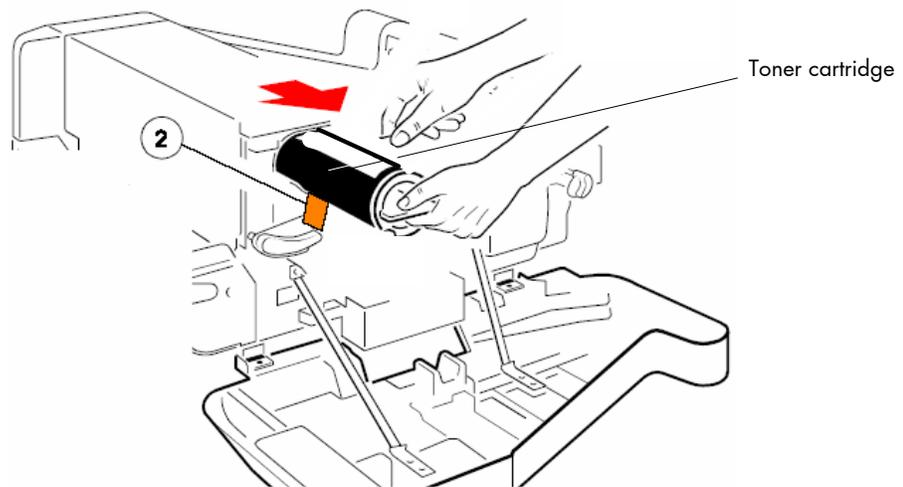

Fig. 2.4.3.b Pulling out the toner cartridge
Note: An orange tape (2) is visible which is fixed to a foam block that closes the toner entrance into the developer. (Compare fig. 2.4.3.b.)
3. Remove the foam block (2) from the developer unit.